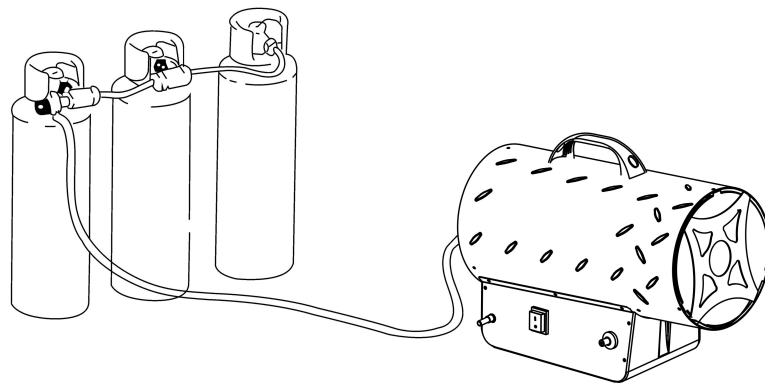

Figure 1
- 1.9. If the heater has to work for a long period at its maximum capacity, it's possible that ice will form on the cylinder. This is due to excessive vapour withdrawal. Not for this reason, or for any other, should the cylinder be heated. To avoid this effect, or at least to reduce it, use a large cylinder or two cylinders linked together (Figure1).